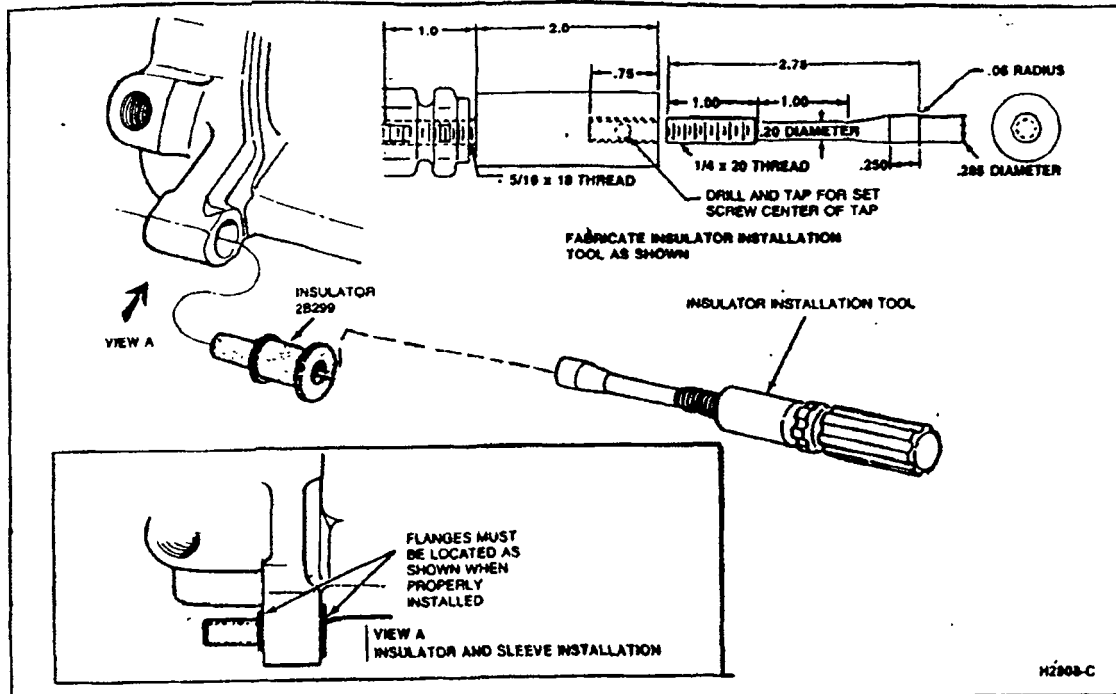

FIG. 3 Insulator and Sleeve Installation
2. Install new locating pin insulators in the caliper housing. Check to see if both insulator flanges straddle the housing holes. Do not attempt to install rubber insulators with a sharp edge tool. (Refer to Fig. 3 for installation tool that can help with insulator installation).